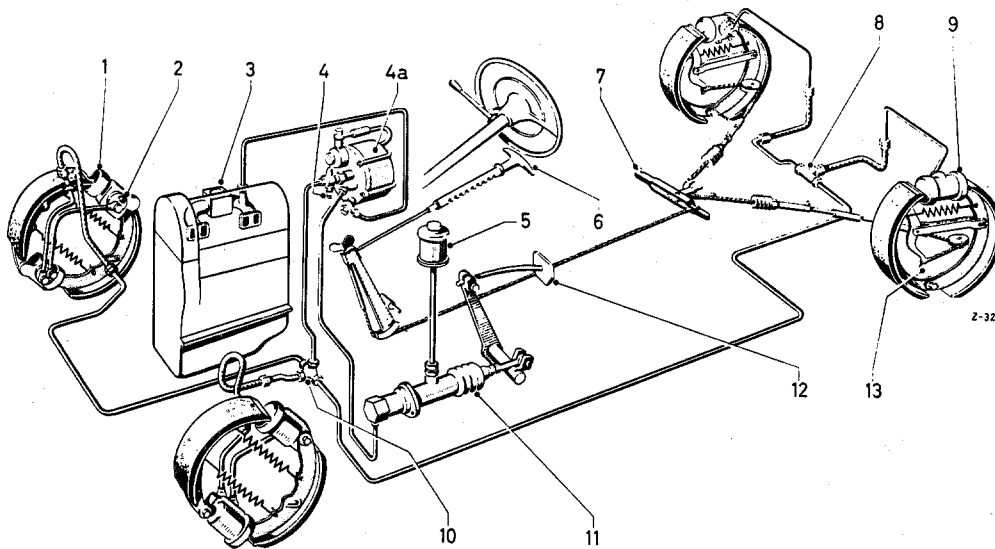

Fig. 42 — 15/5
18. Screw the short brake line (8) and the coupling (7) to the brake line (3) for the right front wheel and tighten up (Fig. 42 — 15/4).
19. Connect the brake lines to the left and right front wheel and the brake line to the rear wheels at the front distributor fitting (10).
20. Then connect the brake line (1) from the power brake to the distributor fitting (10) (Fig. 42 — 15/4).